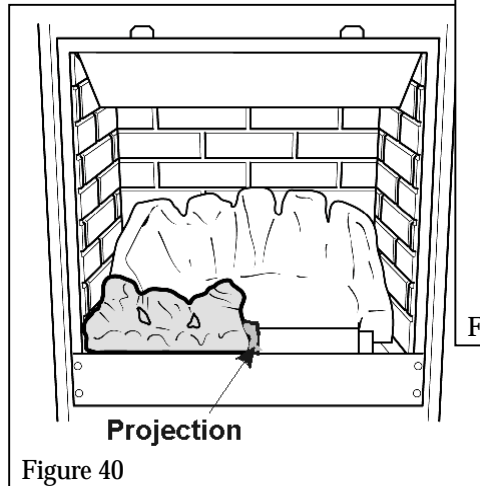

Figure 40
2. Place the left front coal in position behind the metal lip at the front of the firebox. The side projection on this coal should be near the middle front of the firebox. See figure 40.